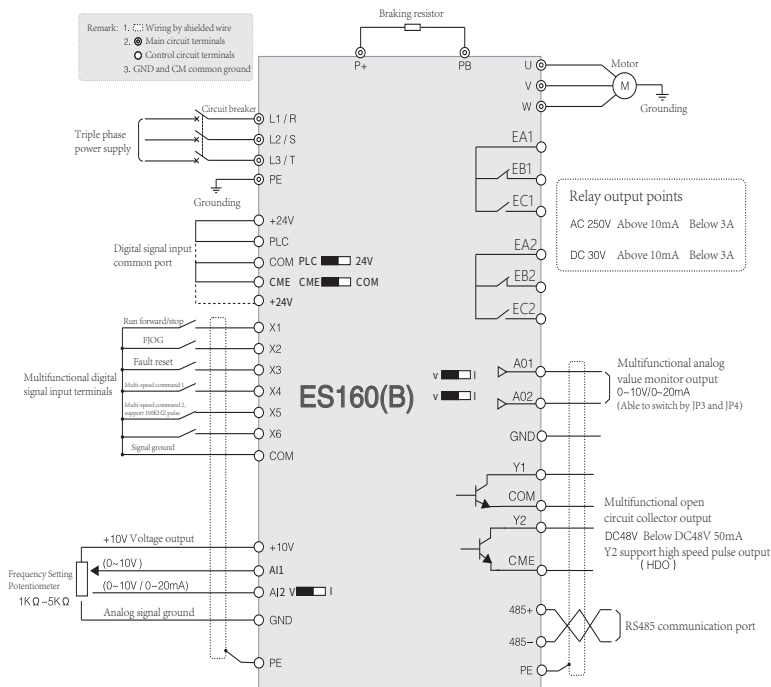

Figure3-9 Standard wiring of main circuit and control circuit
3.2.2 Connection diagram of main circuit terminals and control circuit terminals The standard wiring diagram of ES160(B) series inverter main circuit and control circuit showing as Figure3-9